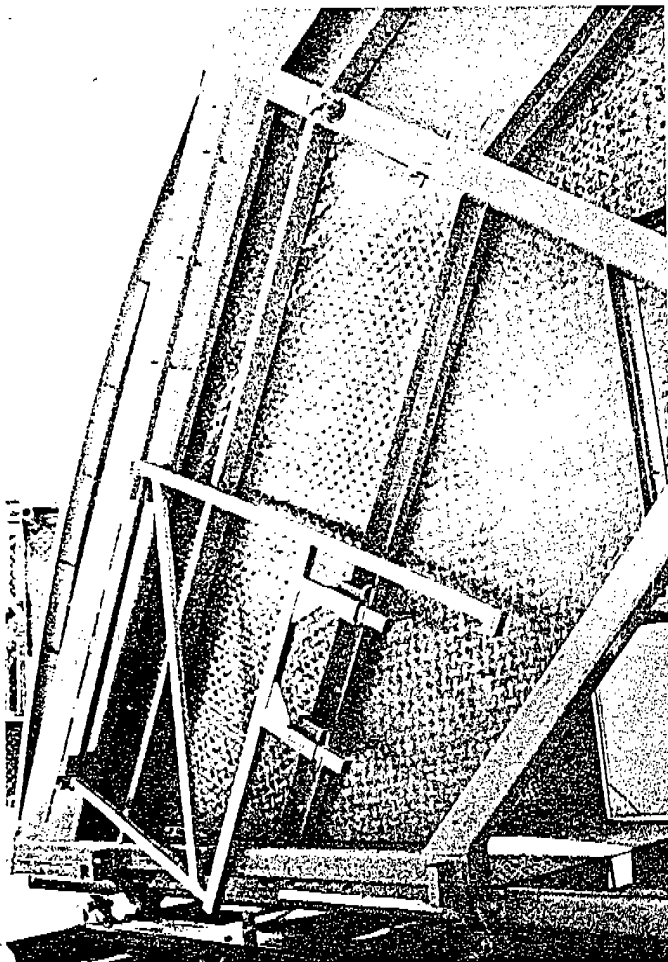

Fig. 82
- Slide the two short legs of the center back walkway support frame in the sockets on the upturned rotating platform section. *Snap Key in Place*. (Fig. 82)